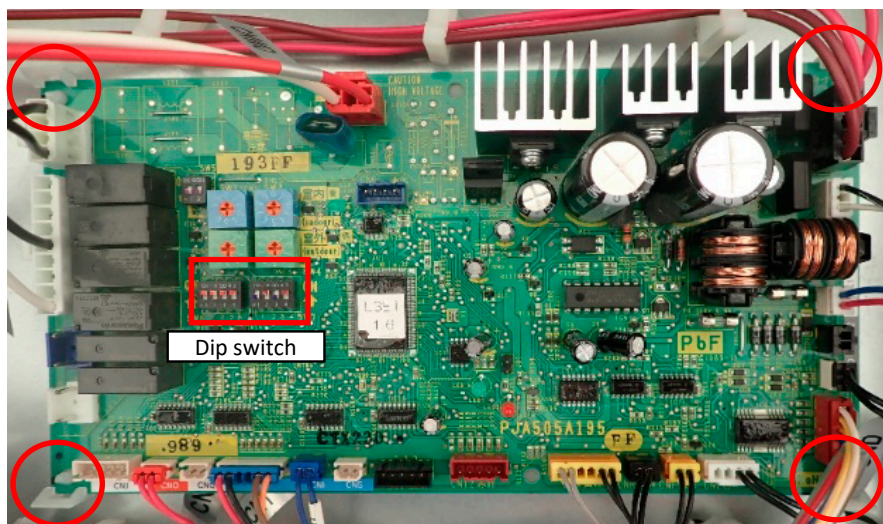

Fig6. Control PCB
- ① Remove all connectors on control PCB.
- ② Take off the PCB from locking supports.
- There're 4 locking supports on the PCB. (○ mark, Fig.6)